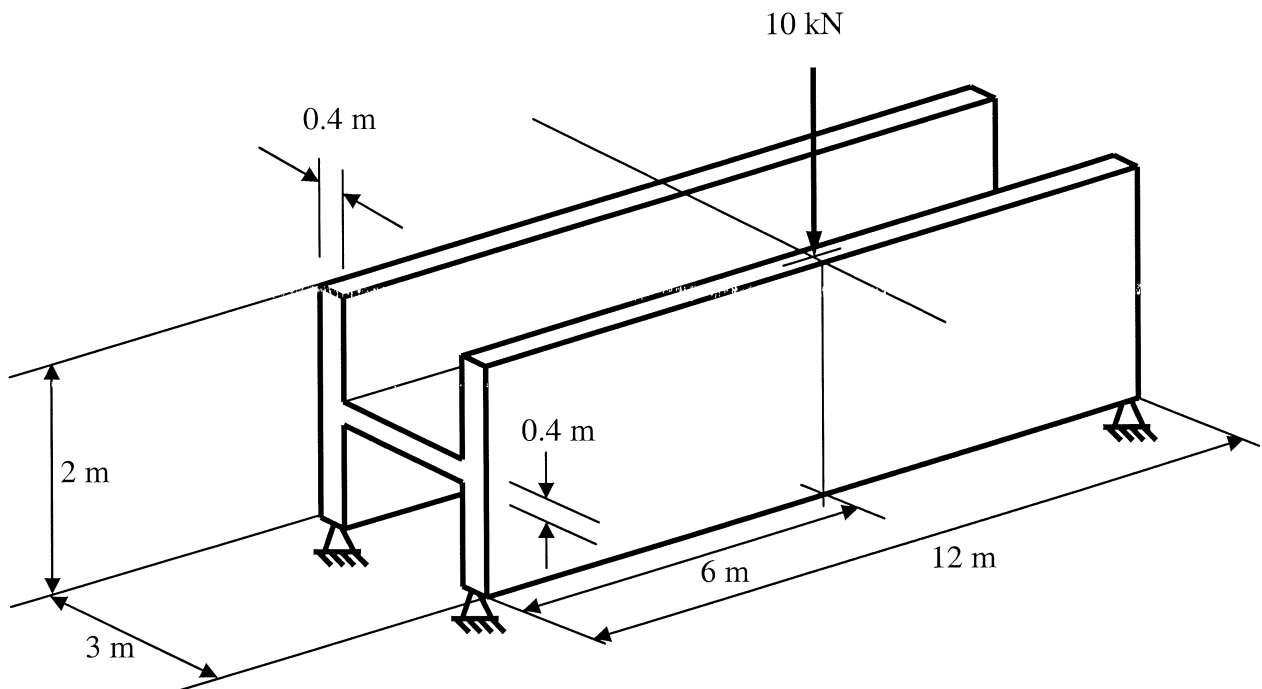

Fig.1
- (b) A footbridge is made from a symmetric I-beam on its side, supported at each end of each flange as shown in Figure 1. It is made from concrete with a Young's Modulus of 30 kN mm^{-2} and a Poisson's Ratio of 0.2. Assume the concrete remains uncracked.